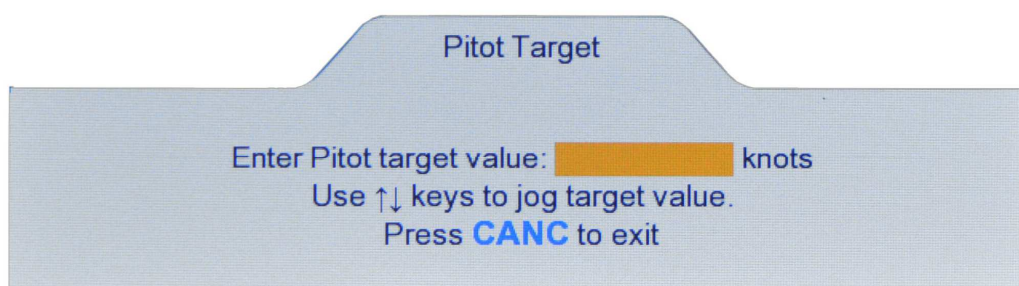

Figure 3.7 : Pitot Target value
The Pitot Target value can be changed only if the key# symbol (2) is displayed to the left of the Pitot Target value field. Press key '2' on the keypad and the Lower section of the display will appear as shown in Figure 3.7 below.
If the Target value needs to be changed in small increments, instead of entering a value, the arrow keys may be used to Jog the Target value up or down. If the current Pitot Target value is 20.0 knots, and the Lower screen appears as in Figure 3.7 above, pressing the **Up-Arrow** key will make the screen appear as shown in Figure 3.8 below.